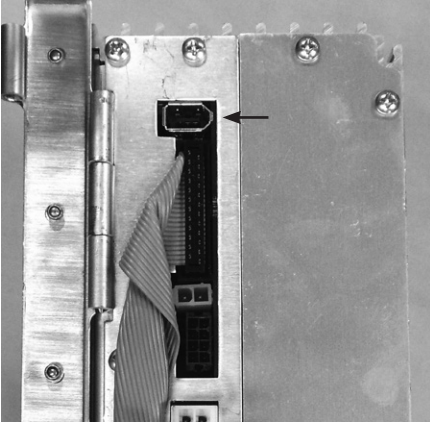

Figure 6. I/O module connection port.
- For I/O modules installed in the multi-phase module or an auxiliary accessory extrusion, the interface cable must be plugged in. Locate the connection port for the I/O module and install the interface cable connection into the port. See Figures 6 and 7. If a second I/O module is installed, the interface cable from one module must be plugged into the port of the other module. It does not matter which module plugs into which module.